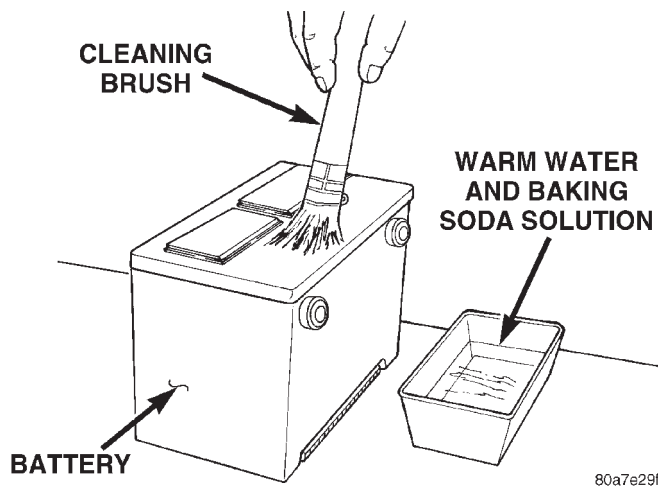

Fig. 9 Cleaning Battery
(1) Clean battery with a solution of warm water and baking soda. Apply solution with a bristle brush and allow to soak until acid deposits loosen (Fig. 9). Rinse with clear water and blot dry with paper toweling. Dispose of toweling in a safe manner. Refer to the WARNINGS on top of battery.